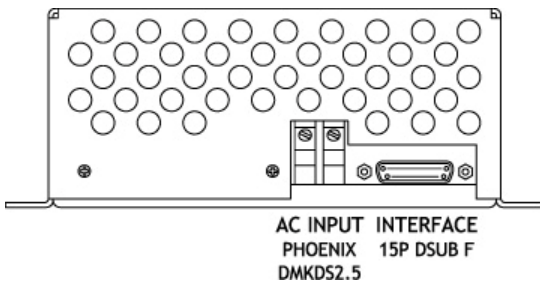

Figure 4
2. **INTERFACE CONNECTION** Connect user system to 15 pin D-sub connector shown in Figure 4. (Although the user interface is typically designed by the user, Lumina Power can provide any assistance necessary to modify interface program and monitor levels) See Table 1 and Figure 3 for description of LDD-100/150/250 Interface and the associated simplified interface schematic.